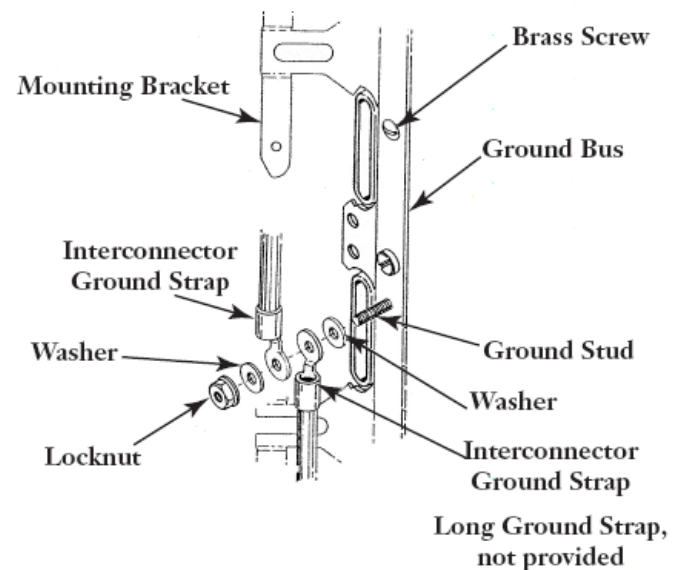

Figure 13
8.2.2 To establish the protector ground path for vertically adjacent C-388 & CG-388 connectors, attach the supplied interconnector ground strap (p/n 023-7712) to the connector ground stud (Figure 13). Make sure to use the supplied washers on the connector ground stud to separate the captivating nut and the connector ground bus from the ground strap lugs. The locknut and washers reduce the likelihood of loose connections being caused by movement of the ground straps.
connections being caused by movement of the ground straps (Figure 13).